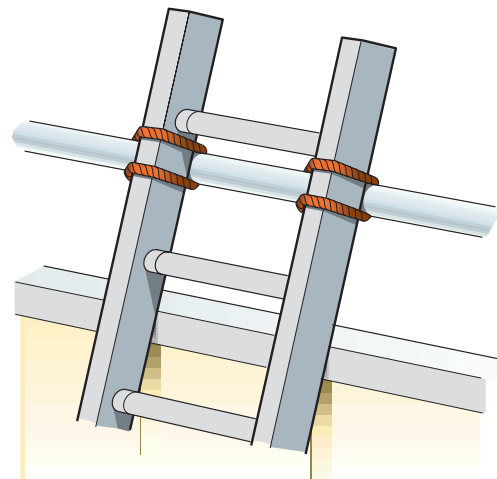

Figure 4 Ladder tied at top stiles (correct for working on, not for access)
- tie the ladder to a suitable point, making sure both stiles are tied, see Figures 4, 5, 6 and 7;